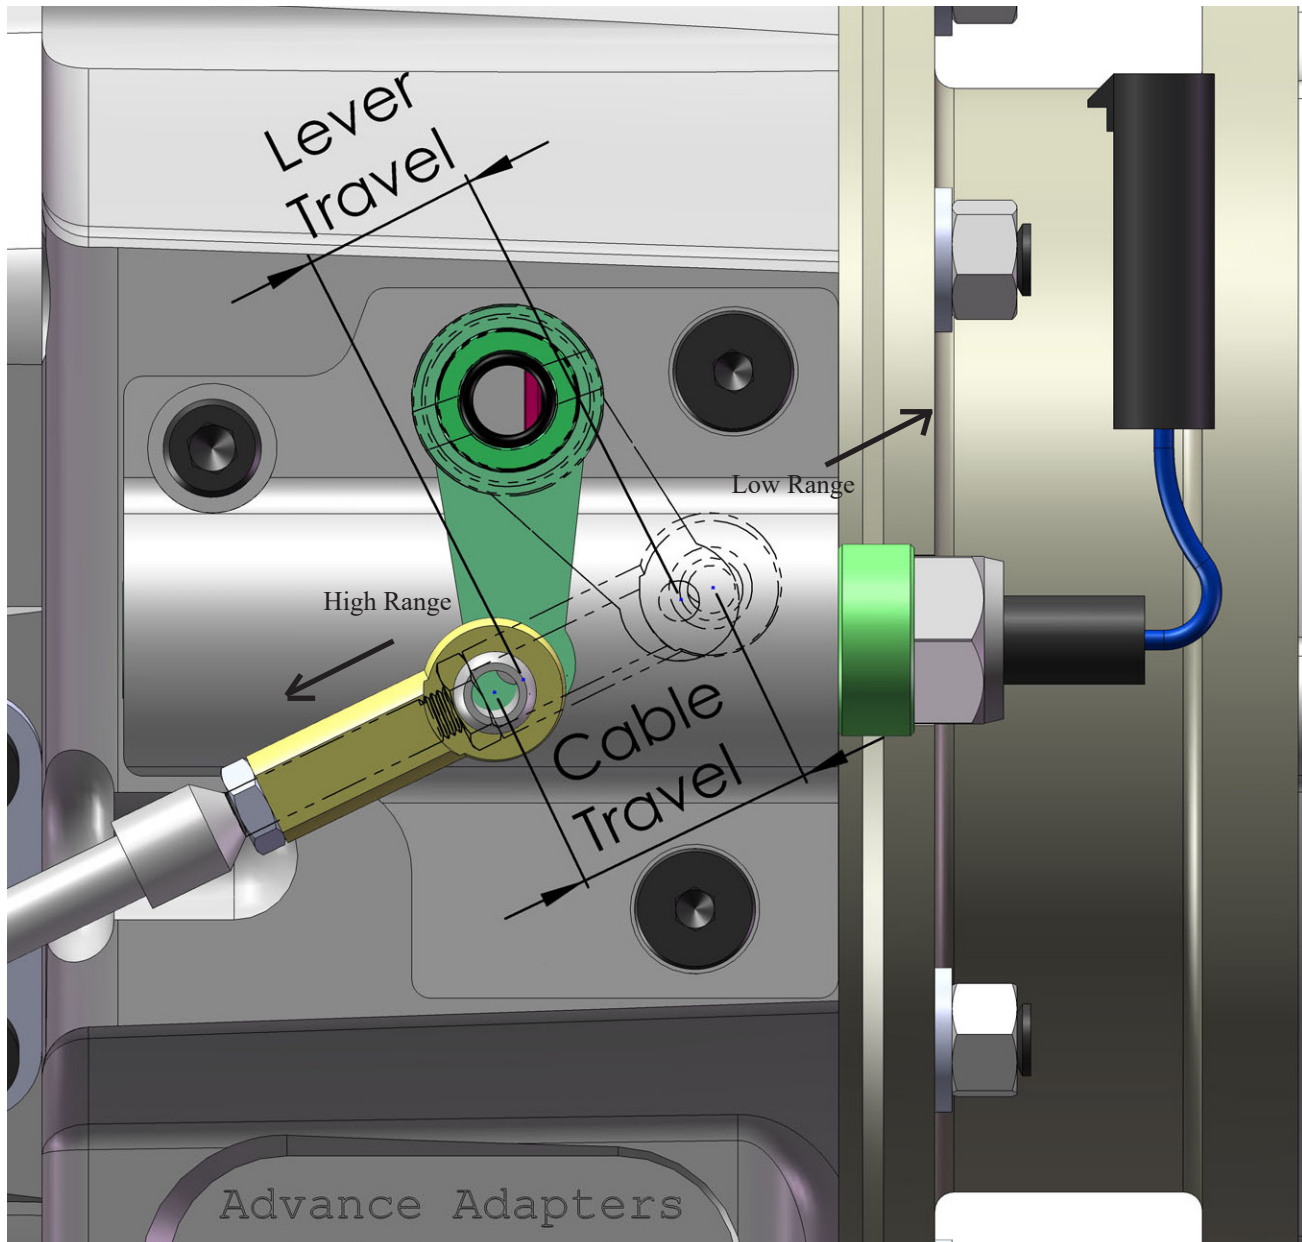

Figure 11: RubiCrawler cable shifter adjustment verification.
2. Verify that the RubiCrawler cable travels an 1/8" past the mounting hole on the RubiCrawler shift lever for both directions of travel. Use a crescent wrench to shift the RubiCrawler while rotating the output shaft. (See *Figure 11*)